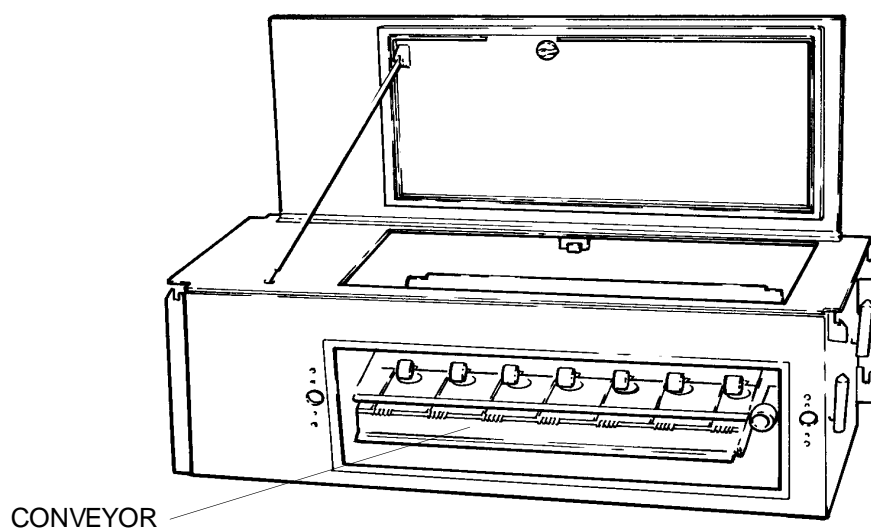

figure 10
19. Remove CONVEYOR from TUNNEL. See figure 10.